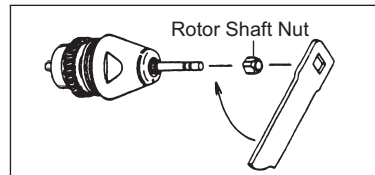

Fig. 15
- ③ Finally insert the rotor shaft nut along the test bur, and tighten firmly with a wrench while holding the rotor. (Fig.15)